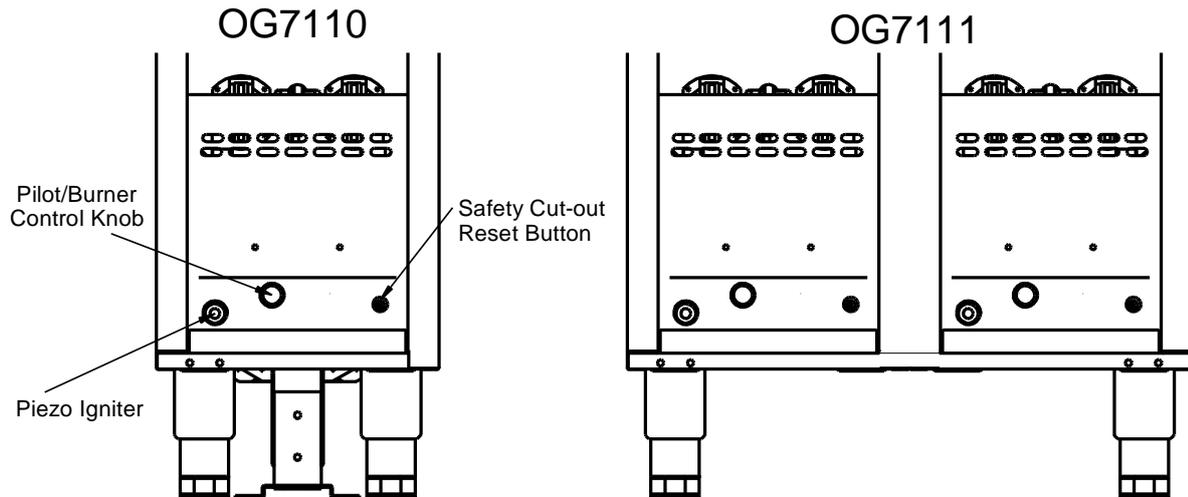

Fig 3
3. Keeping the pilot control knob depressed, press the piezo ignition button (see fig 3.)
Note: Should the safety cut-out thermostat operate during normal use the unit will shut down. To re-light the unit allow the oil to cool to a temperature below 200°C. Re-set the safety thermostat by depressing the red re-set button. (See fig 3. for location).